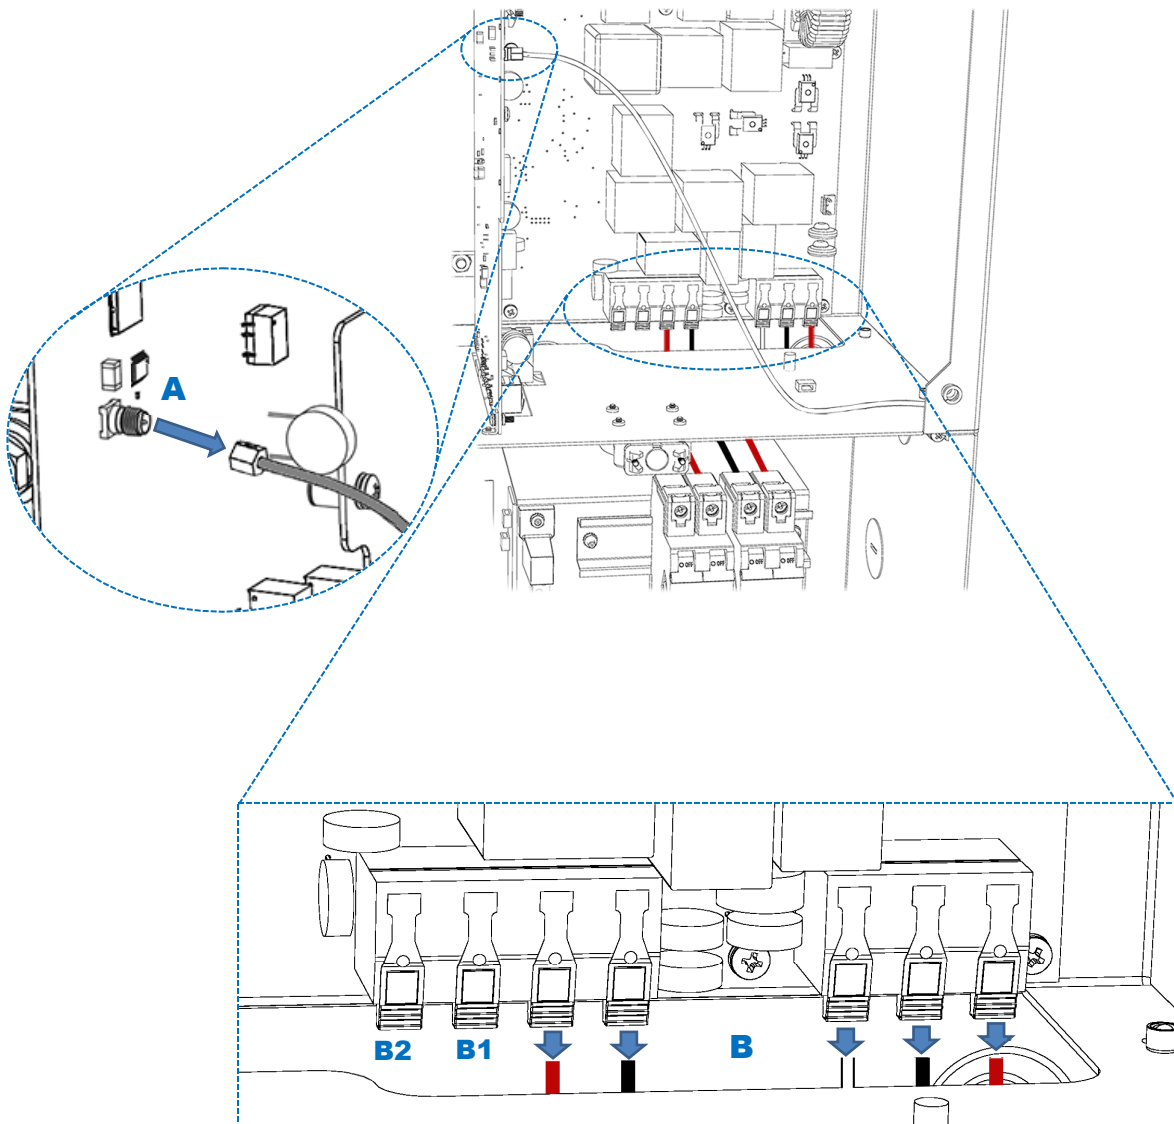

Figure 39 AC Terminals
1. Before beginning, remove the SMA cable for the antenna wire. See **A** in Figure 39. Note that this is not a required step for board replacement, but will make access to the board easier.
- Replace the AC wires **B** and the SMA cable **A**. See Figure 39 if necessary. After latching, tug on the wires to ensure that they are secure.